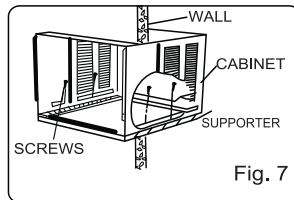

Fig. 7
3. Remove shipping pad from around compressor before operation and make the discharge points to the drain pan are aligned before the chassis is pushed into the cabinet (See Fig.7).